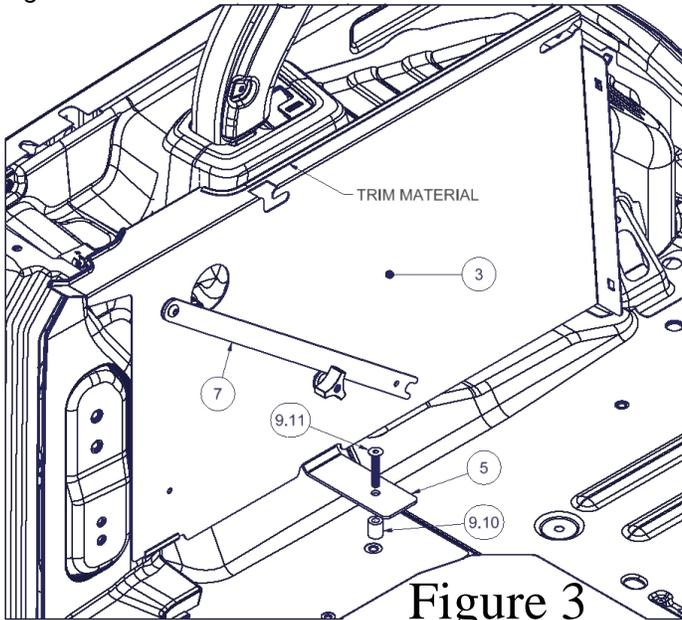
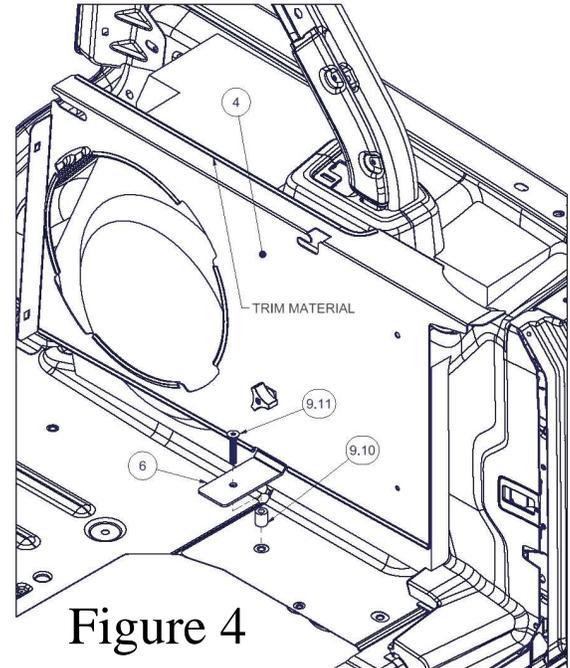

Figure 3
Figure 4
4. Install the (4) #9.8 Door Guard Trim to the subwoofer opening in the #4 Right Side Panel as shown to prevent the Panel from rubbing the plastic trim surrounding the subwoofer.
7. Install the #3 Left Panel (Drivers Side), and #4 Right Panel (Passengers Side) into the cargo area using the #9.11 Cap Screws. Installing them through the Mounting Brackets and the #9.10 Aluminum Spacers as shown in Figure 3 and Figure 4. Adjust the side panels so that the upper profile seats tightly around the plastic trim and tighten the #9.3 Wing Knob Nuts.